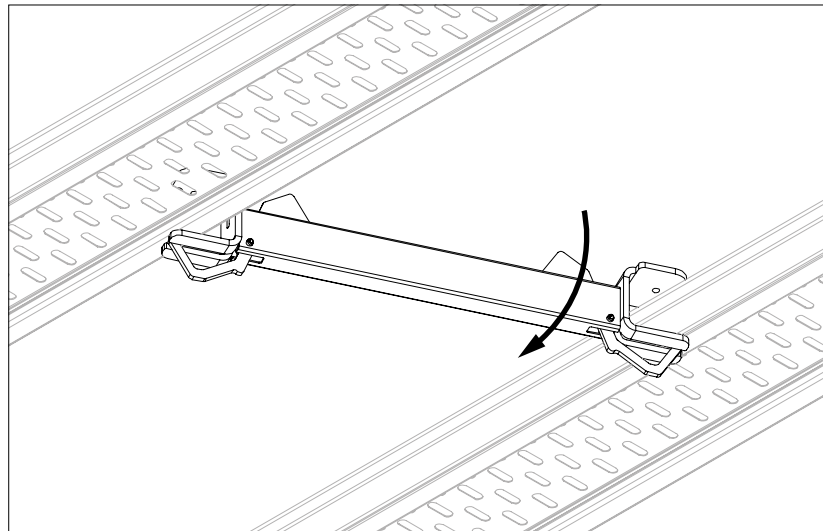

Fig. A7.03b
3. At the intended position, lift the deck traverse into the deck gap diagonally from below and swing it in at right angles onto the adjacent decks. (Fig. A7.03b)